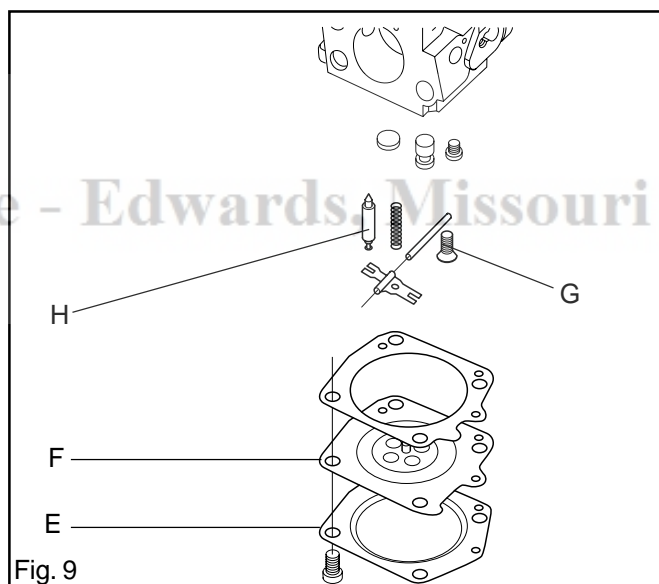

Fig. 9
7. Remove the cover (E) over the metering unit and carefully remove the metering diaphragm (F) and gasket. See fig.9.
8. Remove the screw (G) and take out the needle valve (H) with lever, spindle and spring. See fig.9.